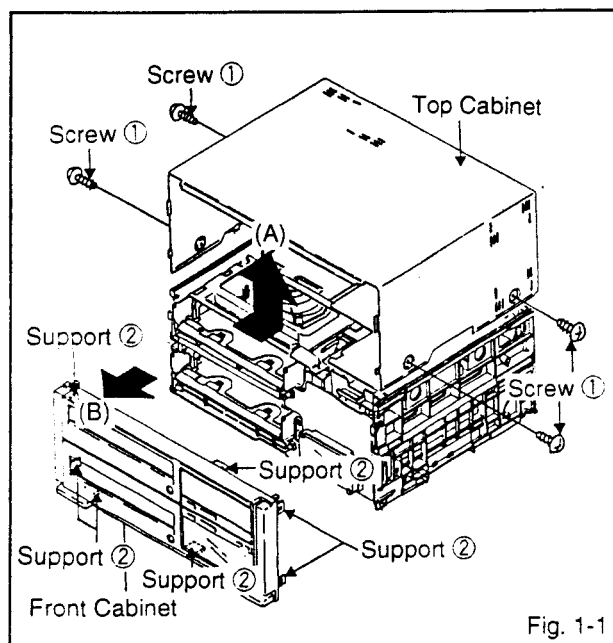

Fig. 1-1
1. TOP CABINET AND FRONT CABINET (Refer to Fig. 1-1)